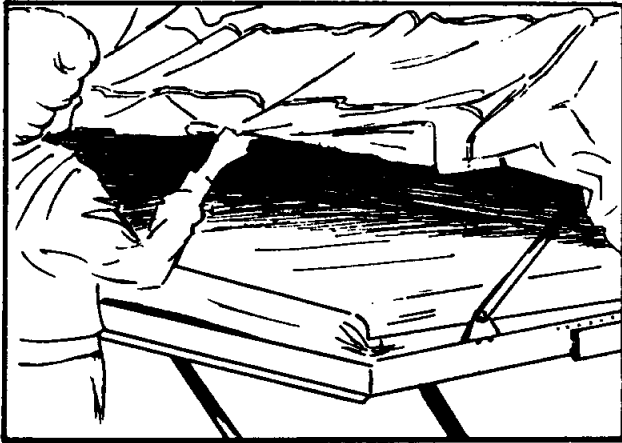

FIGURE 10
18. With both beds fully extended and supported, grasp the bottom edge of either the front or rear tent enclosure with hands approximately 2 1/2 feet apart and **gently** pull as illustrated until the canvas is supported. See Figures 10 and 11.